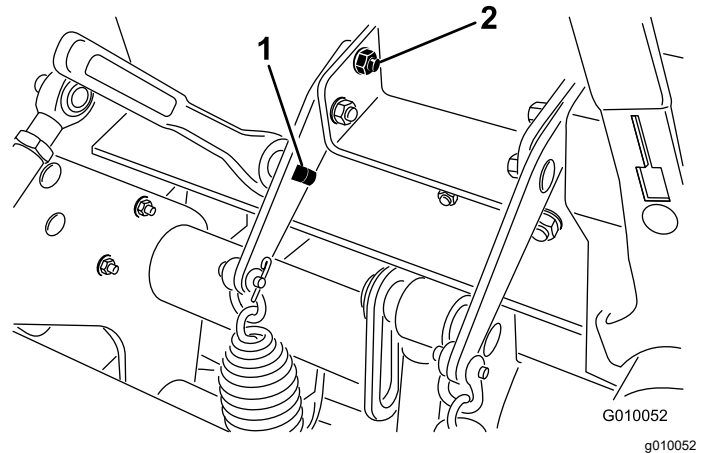

Figure 28
3. Insert a 1/2 inch ratchet or breaker bar into the square hole in the spring plate (Figure 28).